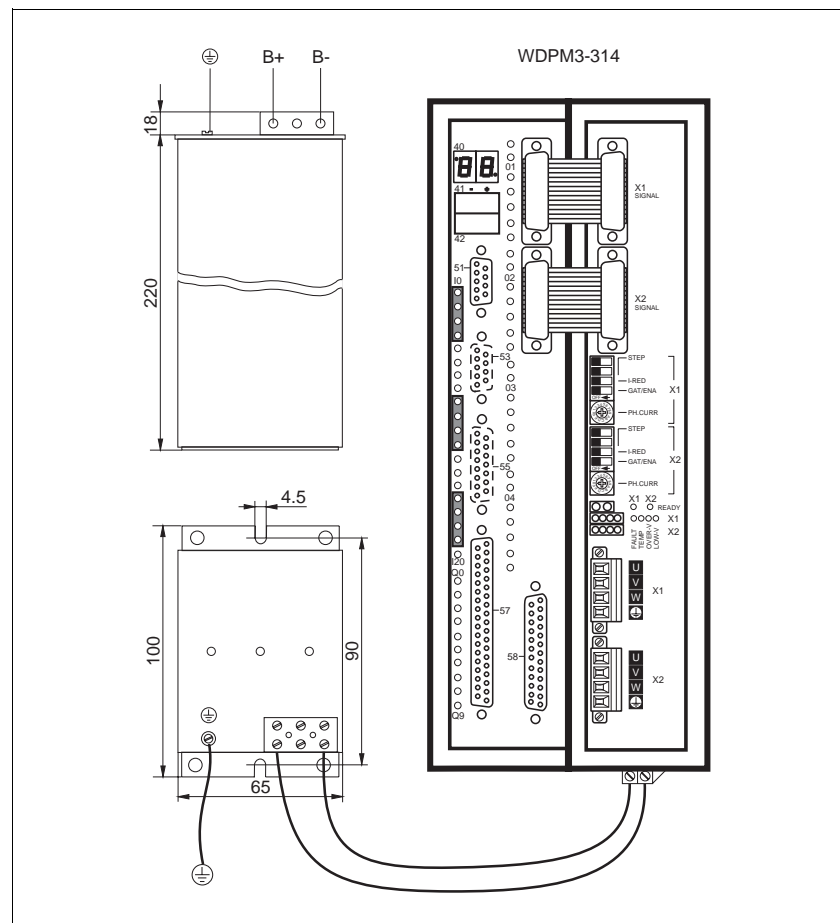

Fig. 6-8 Additional bleed resistor
**6.2.6 Additional bleed resistor** The additional bleed resistor FZP 200 (180 ohms, 150 W) can be used for dissipating a larger amount of braking energy (fig. 6-8).